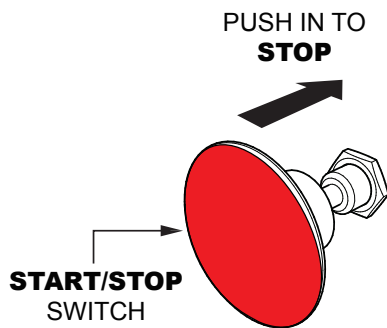

Figure 28. Start/Stop Button (Stop Position)
1. Pull the engine **start/stop** switch (Figure 28) outward to start the engine
2. Push the engine **start/stop** switch (Figure 28) inward to stop the engine.